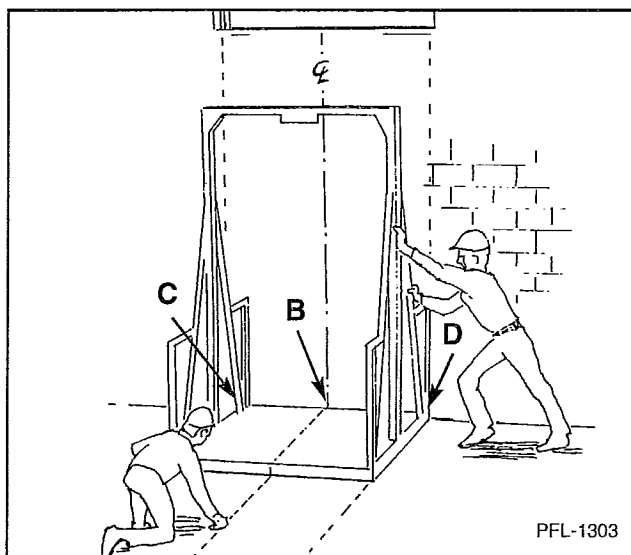

Figure 6
8. Align edge of the carriage with line C, B, and D. See Figure 6. See GA drawing for orientation of carriage.